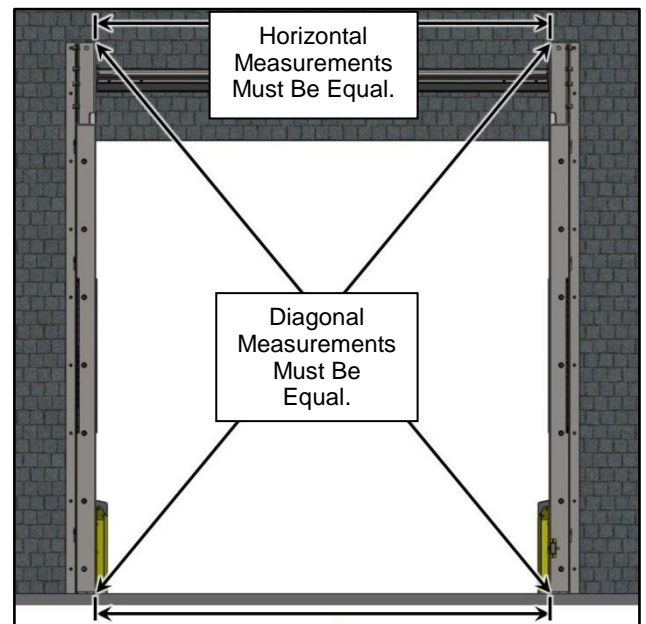

Figure 63
5. With both side column pullouts set, clamped down, and snugly anchored in place, check the overall level, plumb, and squareness of each column. (See Figure 63)